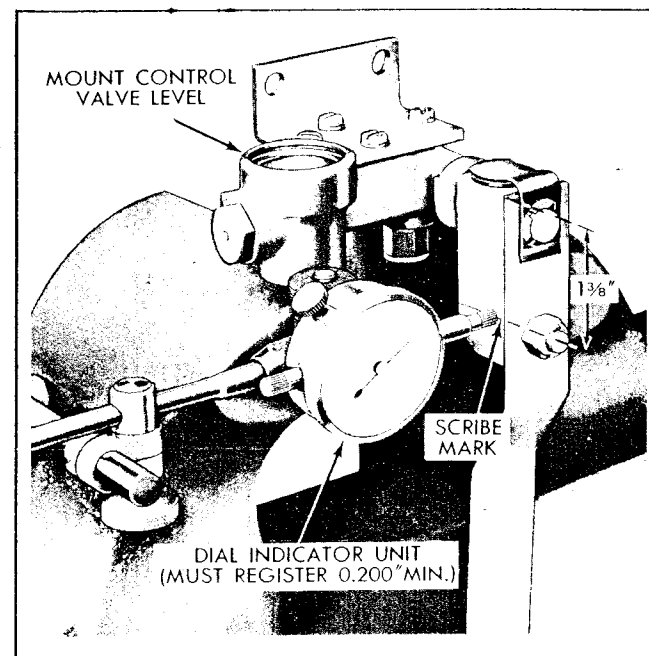
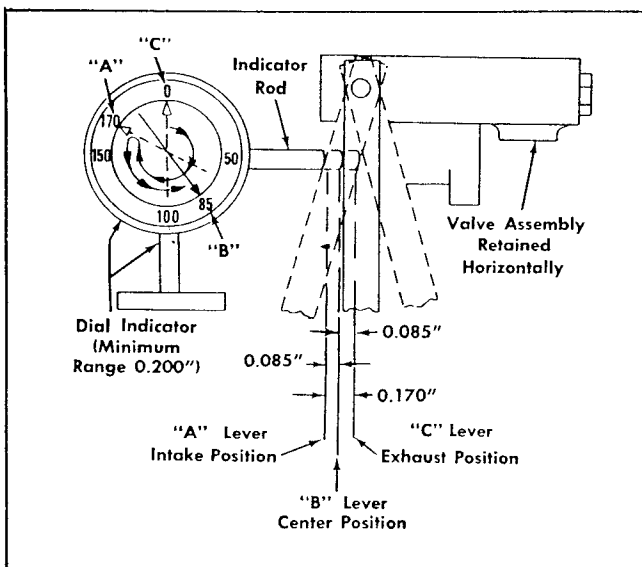

Figure 12-9: Use of Dial Indicator
Figure 12-10: Locating Lever Center
- (1) Clean the exterior of the height control valve.
- (2) Remove delay piston snap ring retainer, cover, and O-Ring from control valve assembly, then drain off the silicone fluid.
- (3) Remove exhaust fitting and exhaust screen from valve.
- (4) Referring to Figure 12-9, scribe a line 1-3/8 inch from plug end of overtravel lever control body.
- (5) Place valve assembly in vise as shown in Figure 12-9.
- (6) If vacuum source is available, attach supply hose to valve exhaust port using Sun Tester fitting No. 115-3 or equivalent. Do not apply vacuum at this time.
- (7) Attach air pressure supply hose to air inlet port. Do not apply pressure at this time.
- (8) Locate dial indicator in position as shown in Figure 12-9. Move overtravel lever to full air exhaust position — TOP OF DELAY PISTON FLUSH WITH TOP OF BORE — without overtraveling (position "C" Figure 12-10). Relocate indicator push rod to just contact 1-3/8 inch mark on control body and reset indicator dial to zero at this point (position "C" Figure 12-10).
- (9) Move overtravel lever to full air intake position without overtraveling (position "A" Figure 12-10) (delay piston at bottom of bore). Take indicator reading which may vary from 0.60" to 0.190".
- (10) Repeat steps 8 and 9 above to recheck this reading.
- (11) Divide the total travel dimension by two (Example: 0.170" 2 equals 0.085), then move overtravel lever back this amount (0.085") to the center (position "B" Figure 12-10).